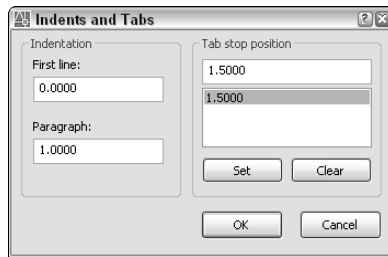

Figure 13-16: Use the Indents and Tabs dialog box to set indents and tabs for your text.
- ♦ **Indents and Tabs:** Opens the Indents and Tabs dialog box, as shown in Figure 13-16. You can set the following parameters: